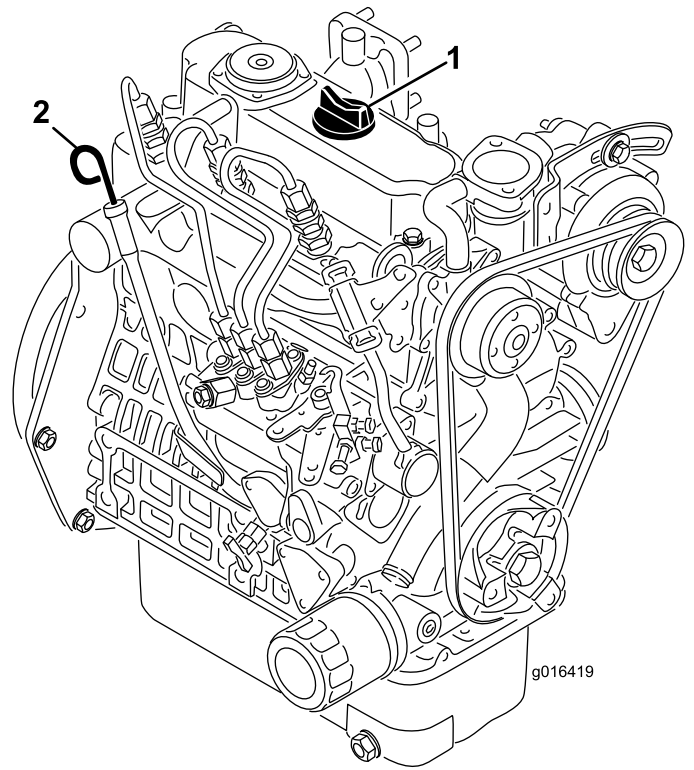

Figure 35
2. Remove the dipstick and wipe it with a clean rag (Figure 35).